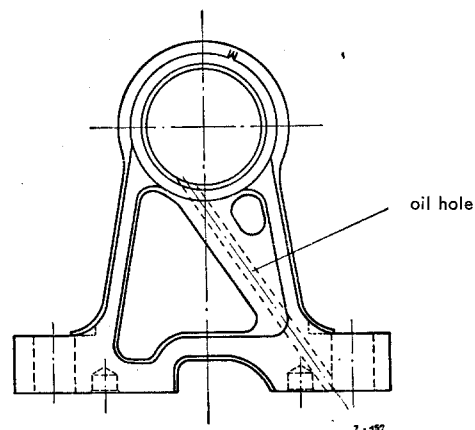

Fig. 05-36/1
5. Exactly check the contact surfaces of the camshaft bearing brackets and of the cylinder head. The surfaces must be absolutely even; this is of special importance for the 1st bearing bracket because the oil duct for lubricating the camshaft runs through this bearing bracket, and consequently oil pressure loss may be caused (see Fig. 05-36/1).
Note: The lubricating system for the camshaft and the rocker arm was changed for model 190 Dc as from engine No. 621.912-10-062 967 and for models L and O 319 D as from engine No. 621.913-10-015 562. The engines are now provided with an external lubrication system on the camshaft. The present camshaft differs from the former camshaft insofar that it has no center hole and no lubricating holes. In addition, the new camshaft has larger bearing pins 2 and 3, as well as new camshaft bearings (0.5 mm larger in diameter, now 46.5 mm dia.); it is provided with oil grooves and oil wells. The pressure oil flows from the main oil duct through a hole into the 1st camshaft bearing (Fig. 05-36/3). The oil reaches the outer oil tube through the annular groove in the 1st camshaft bearing pin (Fig. 05-36/5). From here, the camshaft bearings 2 and 3, the cams as well as rocker arms, are fed with dropping or centrifugal oil, respectively. (For camshaft outer lubrication refer to section B).